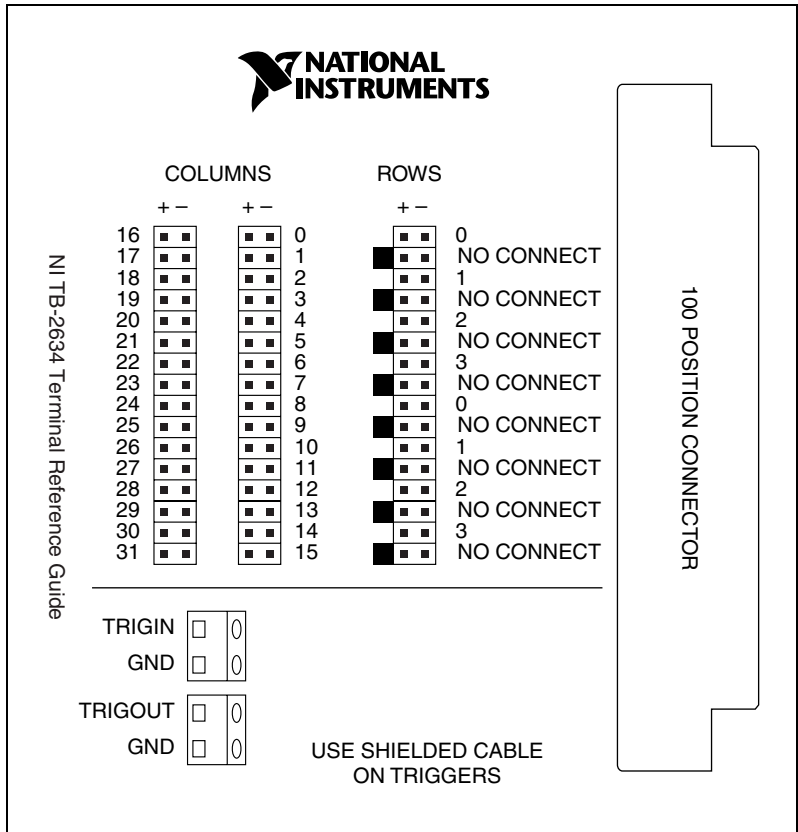

Figure 2. NI TB-2634 Terminal Reference
6. Connect each ribbon cable socket to a ribbon cable header. When connecting your signals to the headers, refer to the connection diagram in Figure 2.